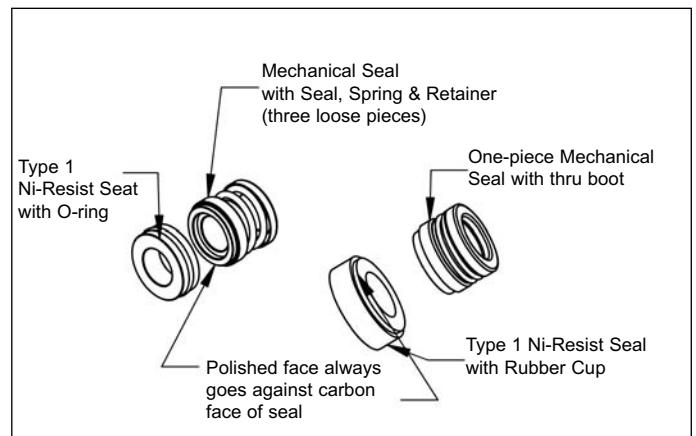

Figure 9 - Seal Types and Parts Identification
- b. There are two possible types of seals. One style, the seal is one piece while the other style has a seal boot, spring and spring retainer (See Figure 9). Refer to assembling components on drive shaft (See Figure 8). When installing the seal on the shaft, wet with water and be cautious when sliding it into position.
- c. The seal seats can also be of two styles; one has a rubber boot and the other has an o-ring. Identify which type you have (See Figure 9). Press seal seat into the seal retainer (See Figures 8 & 9) using water as a lubricant. The white shiny Type 1 Ni-Resist face should be visible after pressing the seal to the seal retainer. It is recommended to use a cardboard washer or wood dowel when pushing the seal seat into the seal seat retainer. Any scratches, dirt, or fingerprints on the carbon or Type 1 Ni-Resist faces will cause the seal to leak. The seal seat is stationary in the pump, while the seal on the shaft rotates. The carbon face spinning against the Type 1 Ni-Resist face provides for the sealing surface.